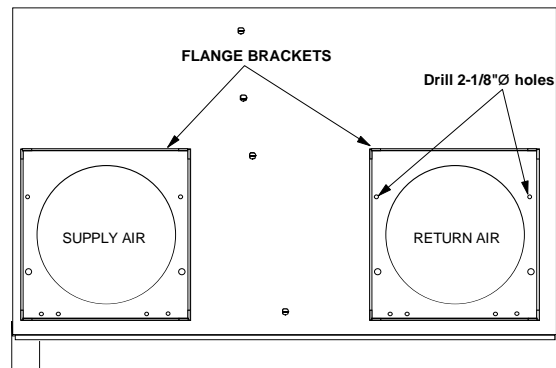

Figure 8
3. Center flange bracket (Figure 8) and unit openings. Attach flange brackets to the unit using the removed screws in Step 1. Retighten screws.
4. Drill two 1/8" diameter holes on the return air side as indicated in Figure 8.